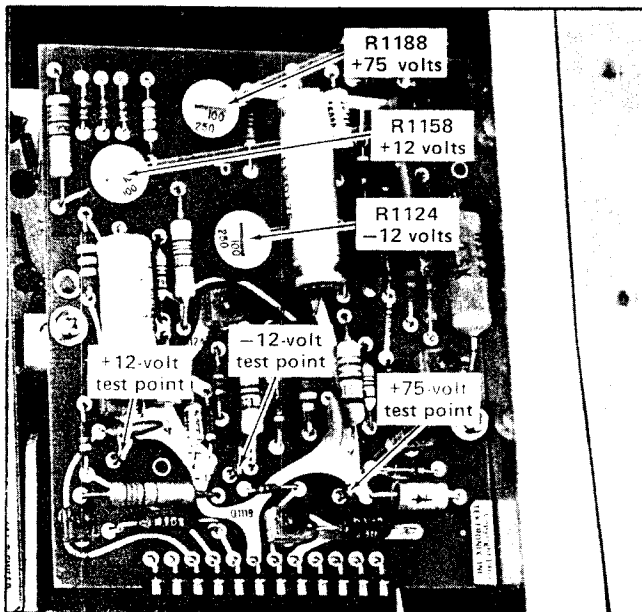

Fig. 5-3. Low-voltage power supply test points and adjustments (Low-Voltage Regulator circuit board).
d. ADJUST— -12 Volts adjustment R1124 (see Fig. 5-3) for -12 volts,  $\pm 0.0032$  volt.
d. ADJUST— +12 Volts adjustment R1158 (see Fig. 5-3) for a meter reading of +1 volt ( $\pm 0.003$  volt).
f. Connect the precision DC voltmeter between the +12-volt test point on the Low-Voltage Regulator circuit board and chassis ground. See Fig. 5-3.
a. Connect the precision DC voltmeter between the +75-volt test point on the Low Voltage Regulator circuit board (see Fig. 5-3) and chassis ground.
c. ADJUST— +75 Volts adjustment R1188 (see Fig. 5-3) for a meter reading of +75 volts ( $\pm 0.278$  volt).
- c. CHECK—Two millivolts (0.4 division) peak-to-peak maximum line-frequency ripple on the -12-volt, +12-volt, and +75-volt supplies while changing the autotransformer output voltage throughout the regulating range selected by the Line Voltage Selector assembly on the rear panel. Power-supply test points are shown in Fig. 5-3.